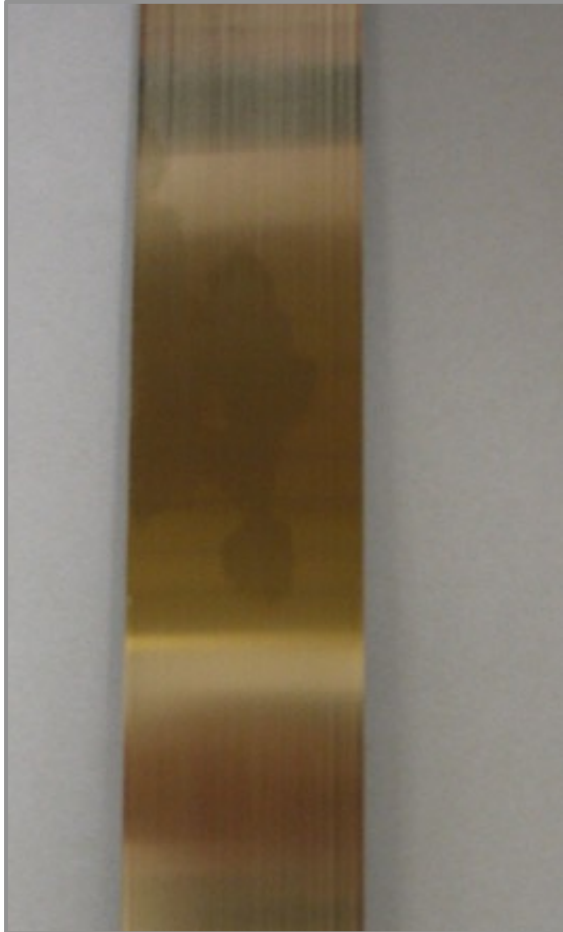

Figure 9. New spring showing absence of any defects visible to naked eye.
- or after the first signs of spring fatigue have been detected during visual inspection (see figures 9 to 12 on the following pages),